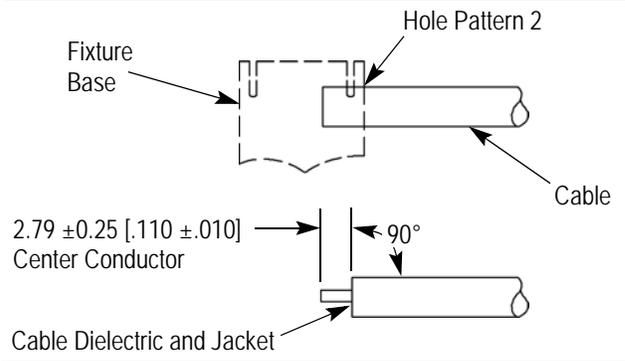

Figure 2
1. Insert the cable end into Hole Pattern 2 of the fixture base. Refer to Figure 2.
3. Pry the jacket and dielectric from the cable to expose the center conductor. Make sure that the center conductor meets the dimension shown in Figure 2.